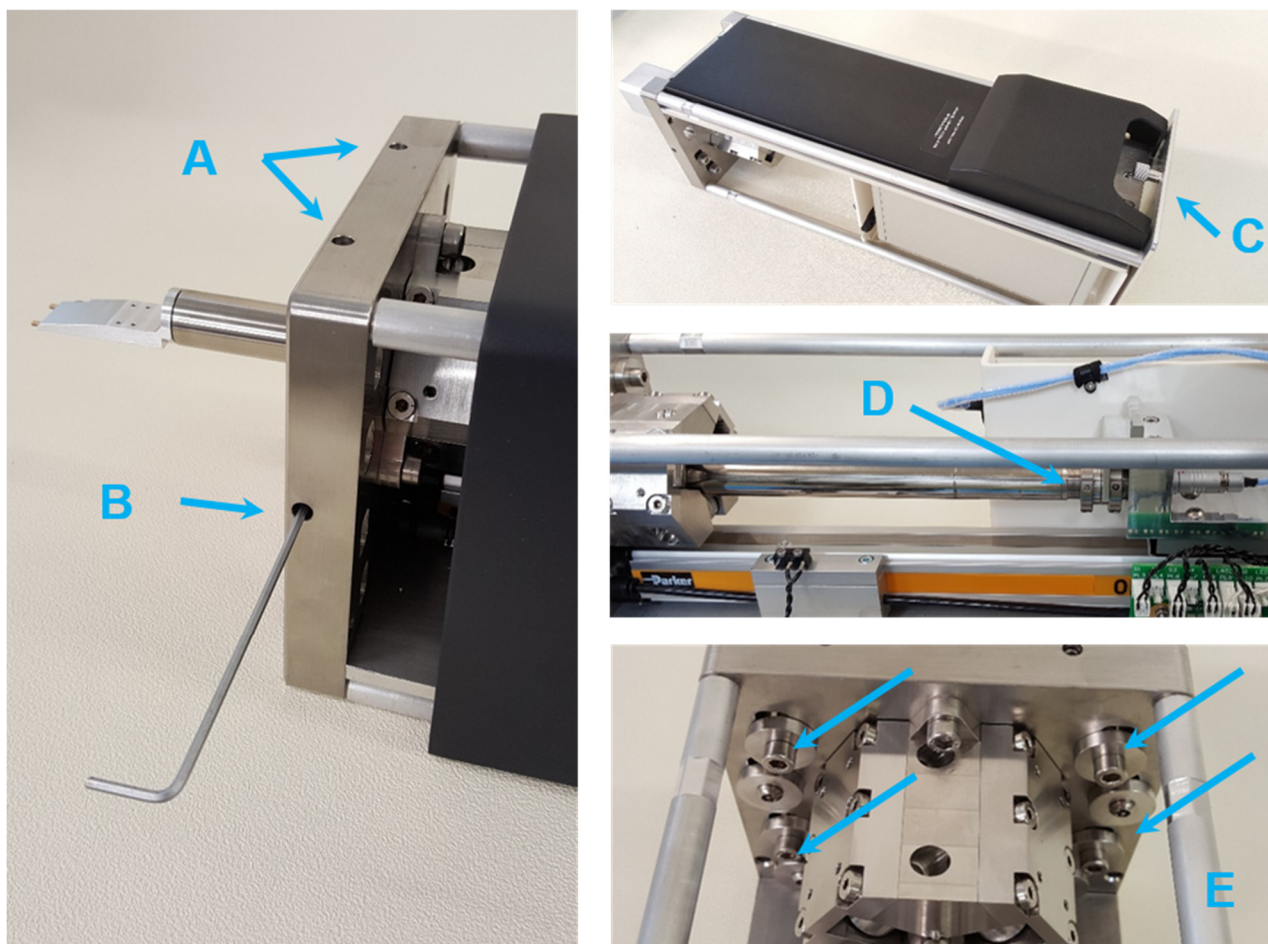

Figure 9: Left – The chamber-end of the OnPoint detector with the top cover slightly pulled back. (A) shows the Z adjust screws, (B) shows the Y adjust screws.
- 1 Remove the top cover from the OnPoint detector. This requires the cover thumbscrew to be loosened (Figure 9: Part C), and the cover slid back and up.
- 4 Eight bolts are holding the detector to the SEM interface flange – loosen the four cap-heads that are accessible (Figure 9: indicated by arrows, E). The other four tamper-proof screws will maintain sufficient contact to avoid breaking the vacuum.
- 5 To move the detector in the Y-axis, orthogonal to the direction of insertion, slacken both set screws shown as B and the opposite screw to B. Ascertain the direction of movement by tightening one of them while live imaging. Tighten whichever set screw is required whilst ensuring the opposite side is loose slack. Once the position is good, tighten both sides. Once the adjustment is complete, remember to tighten the cap head screws E once more. It is normal to see a slight lateral movement as one side is initially tightened before the other due to compression of the O-ring. To adjust the stopping point of the BSED in the X-axis, turn the wheel on the rear of the retraction arm (Figure 9: Part D).